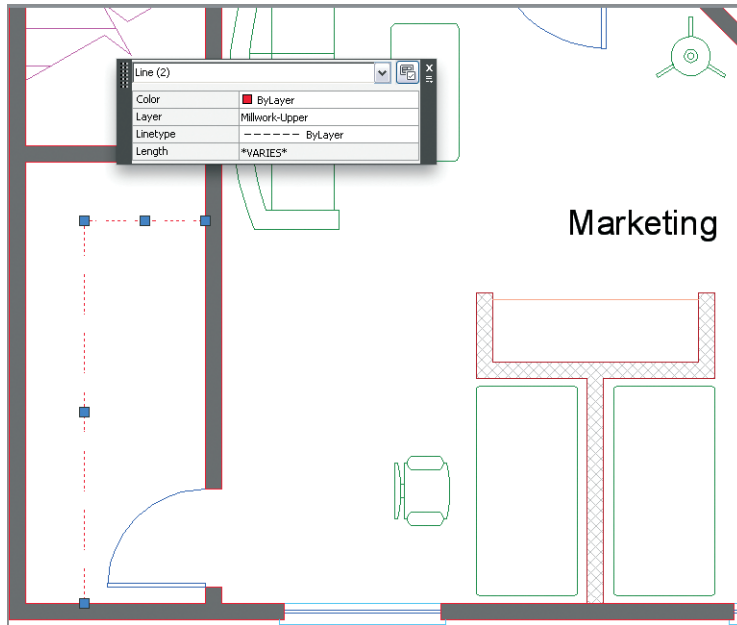

FIGURE 6.29 Changing layer assignment and setting linetype to ByLayer
10. Zoom into the closet in the Marketing space, and select both shelf lines. Change Layer to Millwork-Upper and Linetype to ByLayer in the Quick Properties window (see Figure 6.29). The two lines appear red with Hidden linetype. Close the Layer Properties Manager.